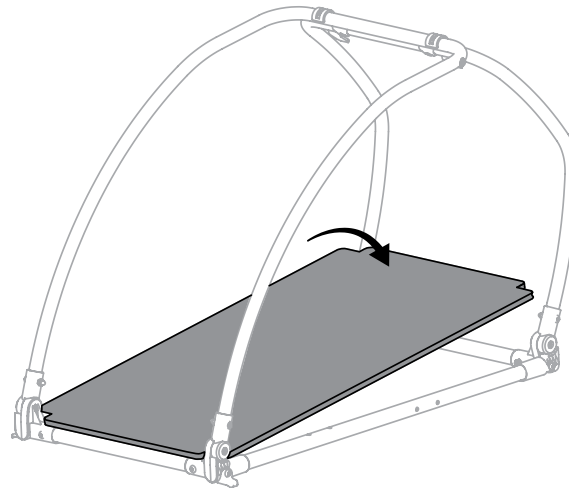

Figure 15A
2. To install floor, insert floor under rear corner mounts. Lower front of floor and snap into place under front corner mounts. (Figure 15A & 15B)